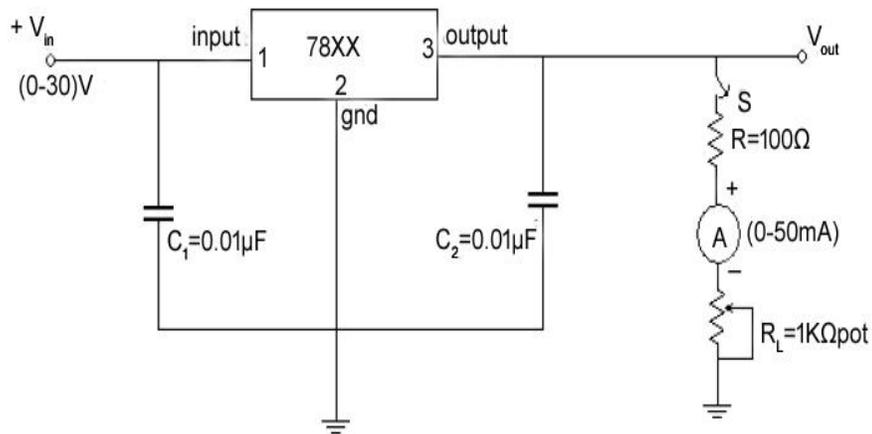

Figure: 2. Positive Voltage Regulator
8. Repeat the above steps for negative voltage regulator as shown in Fig.2 for 7912 for an input of 0 to -15V.